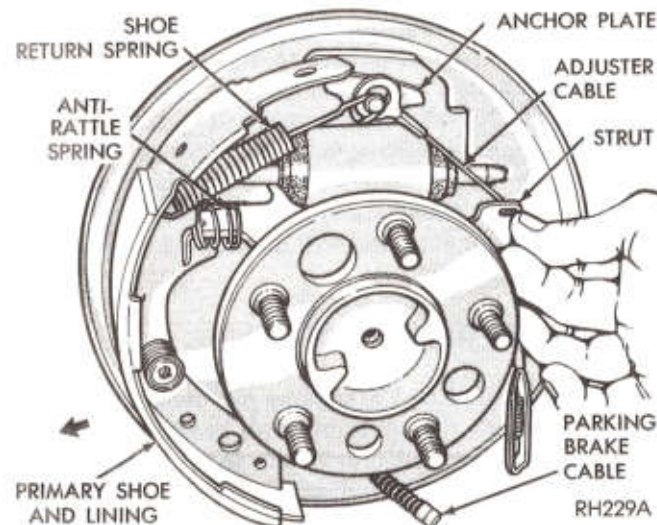

Fig. 6—Removing or Installing Parking Brake Strut and Spring
(1) Engage parking brake lever with cable. Install parking brake lever into rectangular hole of secondary brake shoe.
(2) Slide secondary shoe against support plate, at the same time engage shoe web with push rod and against anchor.
(3) Slide parking brake strut behind axle flange and into slot in parking brake lever. Slide anti-rattle spring over free end of strut (Fig. 6).
(4) Slide primary shoe into position and engage with push rod (if so equipped) and free end of strut.